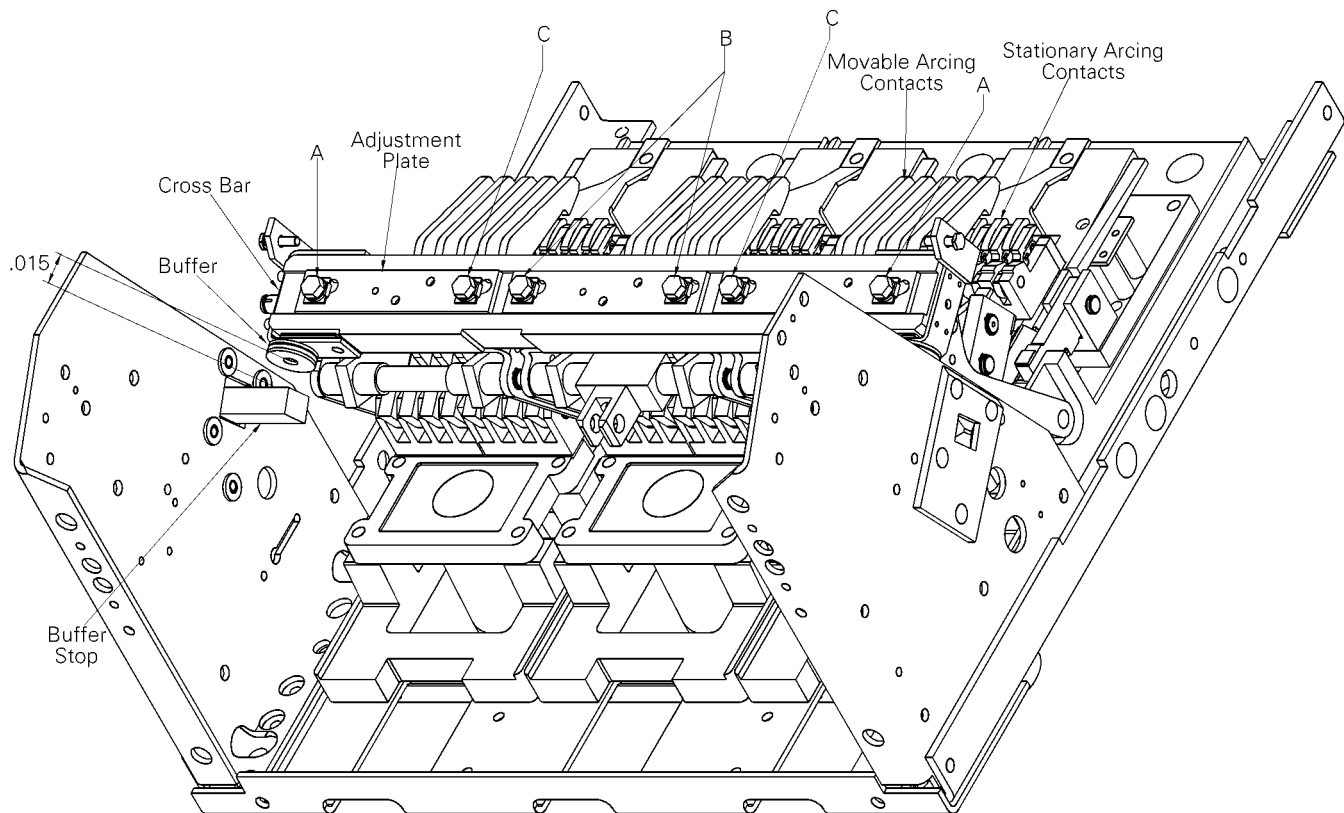

Figure 6-5. Assembly and adjustment of the cross bar.
1. Loosen the cross bar bolts, shown in Figure 6-5, so that the link can move freely.
For these procedures, refer to Figure 6-5.
The maximum difference in the making of the arcing contacts on the same pole must be 0.06 inch. The difference between making of the arcing contacts on different poles must also be no greater than 0.06 inch. To advance or retard the closing of the contacts on a pole, loosen the bolts holding the adjusting plate of that pole, illustrated in Figure 6-5, then slide the plate to the left to advance contact closing or to the right to retard closing. Make this adjustment on the outer poles, using the center pole as a reference.
2. Verify that the buffer assemblies on the ends of the crossbar, as illustrated in Figure 6-5, are touching. With the breaker contacts open, there should be no more than a 0.015 inch gap on one end when the buffers on the other end are touching. If necessary, adjust this dimension by adding or removing washers under one of the buffers.